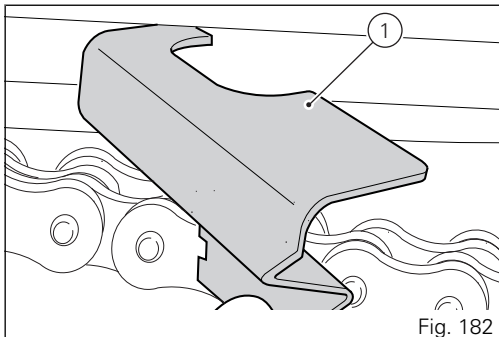

Fig. 182
The chain tensioning gauge (1) must be inserted between the swingarm and the lower chain slider in correspondence of the slider central fixing point (Fig. 182).